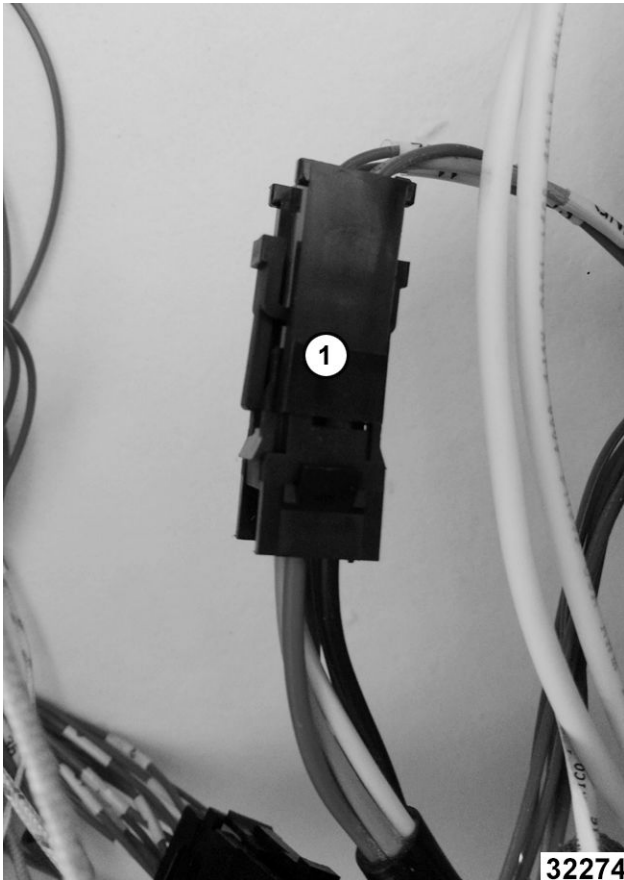

Fig. 37
2. Disconnect motor harness (1, Fig. 37).